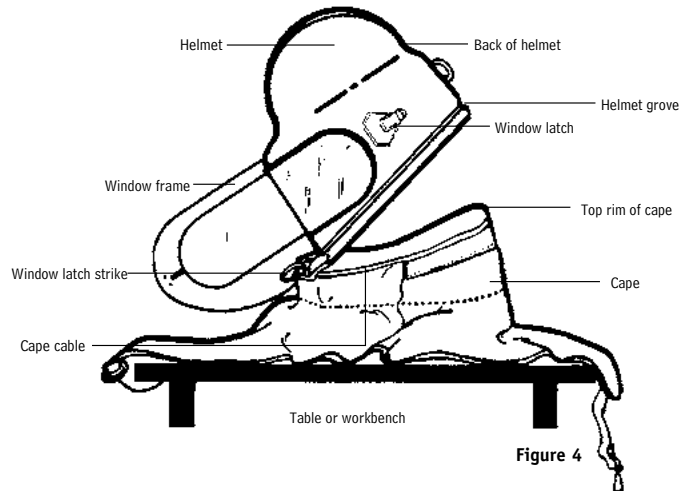

Figure 4
2. Remove cape from helmet by lifting up on clamp and disengaging cape from helmet groove (Figure 4).
1. Place cape on table or workbench. (Figure 4, page 12)
3. Line up the clamp on the cape with the front center of the helmet (Figure 4, page 12).